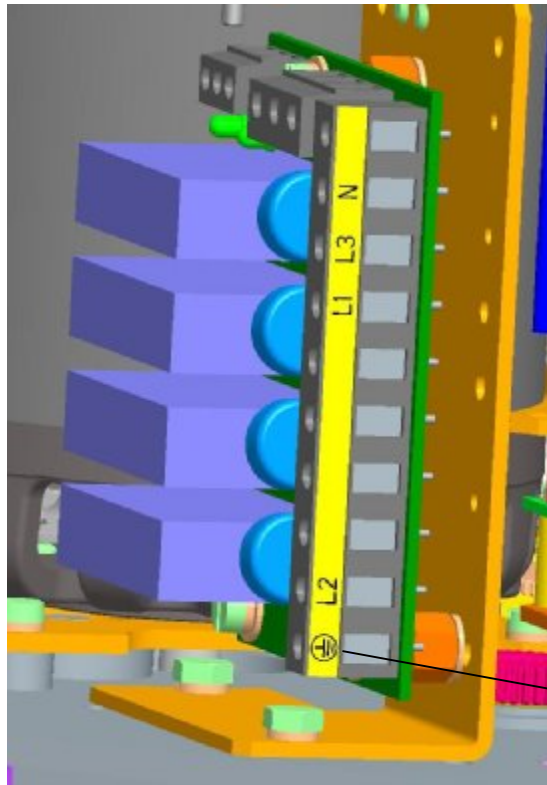

**Fig.2**
- outside and inside ground terminal must be connected for safe operation of the actuator. The position of the outside and inside ground terminal can be seen in **Fig. 2 2a, 2b, 2c, 2d, , 2g, 2h**. For forcing - in wires in external ground terminal be needed use pliers HP3 for insulated eyelet (firm CEMBRE).
Actuator power supply board is installed with power supply fuse (F3). Location of the fuse on the power supply board can be seen in **Fig.2**.
- Set the actuator (A) and the valve (B) to the position "closed".
- Loosen and unscrew two screws (5) on the actuator shaft (3) and disconnect the coupling clamping parts (8)
- Screw the coupling nut (8) onto the valve output shaft (6) (max. 28mm) to have an allowance between the coupling nut (9) and the actuator shaft (3) after the actuator is sat on.
- Place the actuator (A) onto the valve (B) and fix the actuator slightly with the screws (4a), or with the central nut (4) (according to shape of connecting flange of EA) in the way you be able to move it.
- By turning hand wheel (1) move end shaft EA (3) toward thread coupling (8) screwed onto valve output shaft (6) (or unscrew thread coupling)
- Put the clamping parts of the thread coupling (8) on, and tighten the both coupling screws (5) to have the coupling nut able to rotate
- Tighten the screws (4a), or central nut (4) with the cross system to fasten the actuator (2) and valve (7) flanges.
- Check the connection diameters in accordance with the Fig. 2.
- Unscrew the coupling nut (8) by one more revolution (to create the pre-stress against the valve seat), and tighten the coupling screws (5) firmly